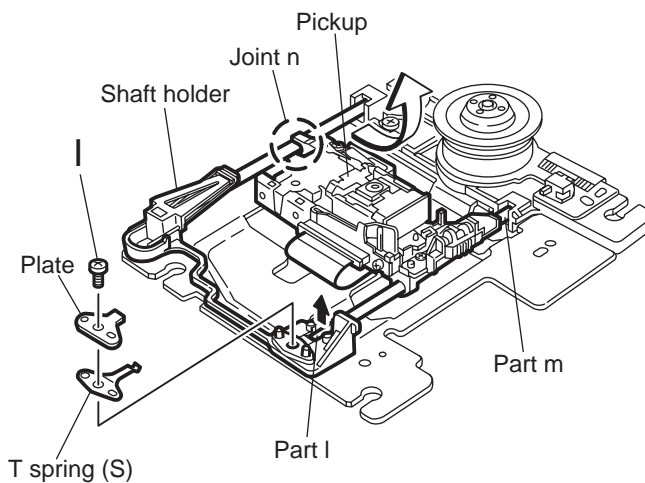

Fig.2-23
2.3.3 Removing the pickup (See Fig.2-23 and 2-25)